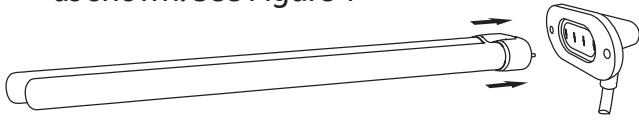

Figure 1
- 1) Insert lamp into watertight lamp socket as shown. See Figure 1